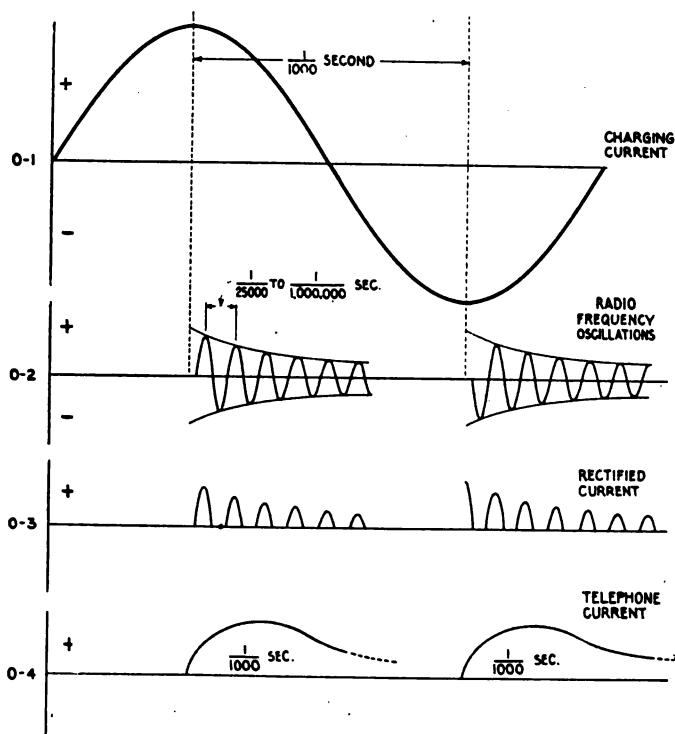

Figure 181
(1) The graphs indicate only the results secured by the combined use of the tikker and crystal rectifier, but somewhat similar effects are obtained from the beat receiver (heterodyne or beat system, as it is sometimes called), to be described further on.
(2) It is to be noted that the telephone current is approximately the same in the graphs in Figures 181 and 182.